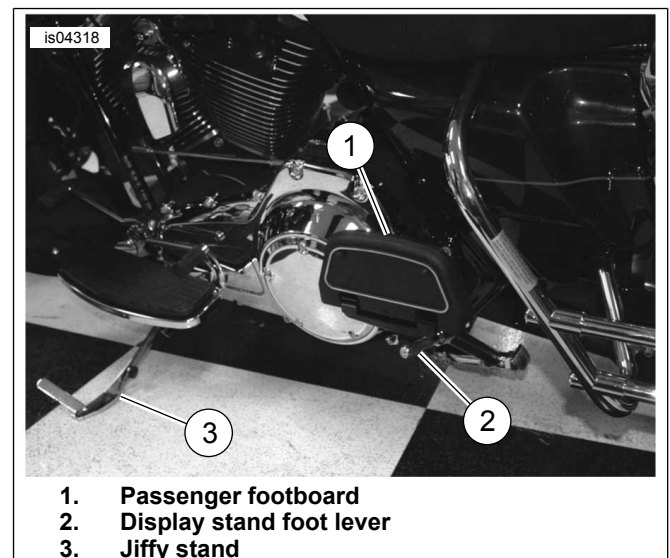

Figure 5. Display Stand, Not Engaged
1. See Figure 5. Position the jiffy stand (3) to support the vehicle.
1. See Figure 5. With the vehicle on a level surface, in neutral, jiffy stand down (3) and standing on the left side of the vehicle, lift the left passenger footboard (1) or peg.
3. See Figure 5. Place your right foot on the display-stand foot lever (2) to lower the display-stand foot pads to the floor.
1. See Figure 5. With the vehicle in neutral and on a level surface, hold the left handgrip with your left hand and then hold the right hand grip with your right hand covering the front hand brake lever.
3. Engage the jiffy stand (3).